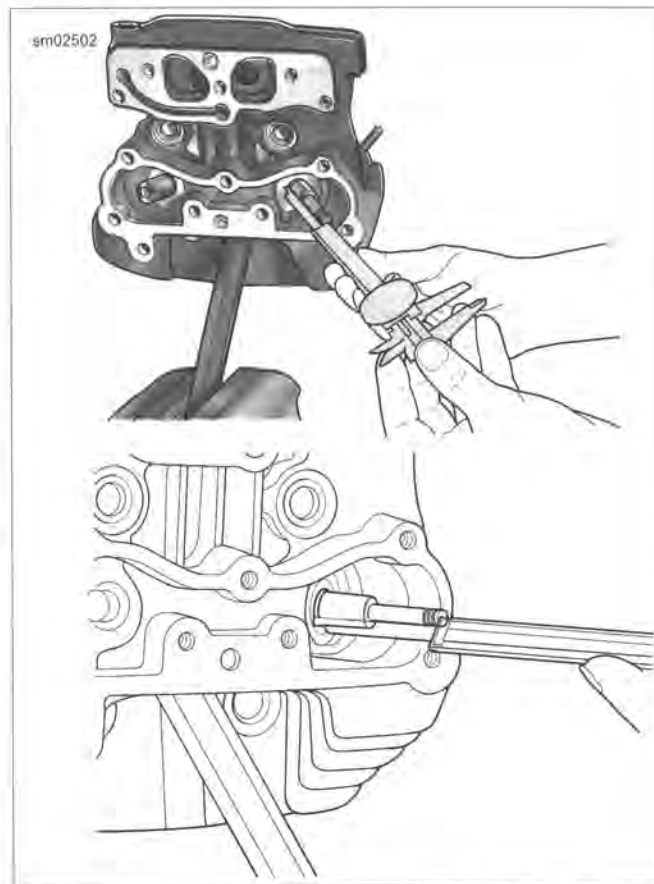

Figure 3-48. Checking Valve Stem Protrusion
5. See Figure 3-48. Measure valve stem protrusion.